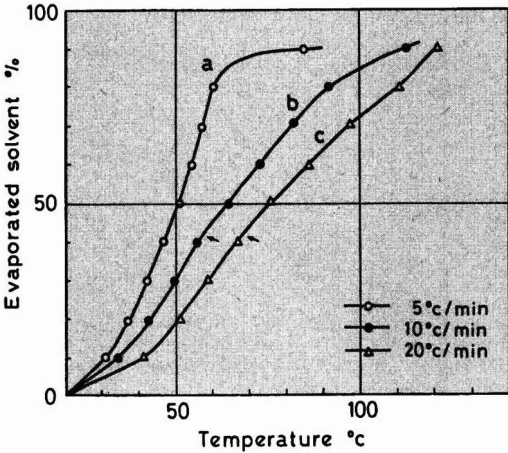
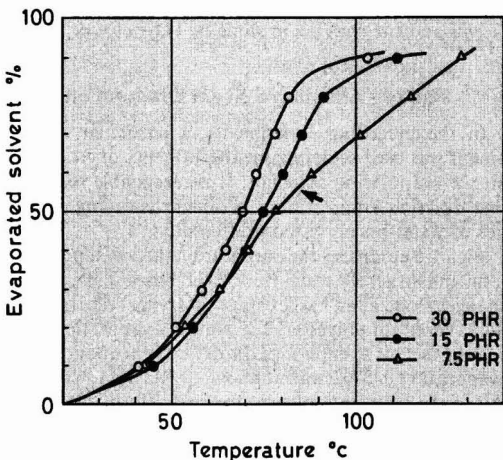
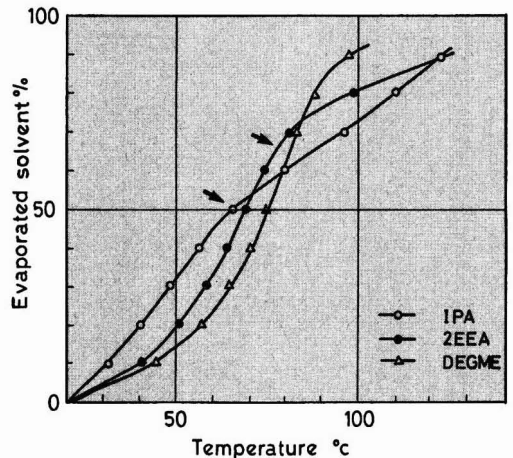

Figure 1—Evaporation curves obtained at different rates of heating (S-01)
Figure 3—Influence of the amount of cosolvent added on evaporation curves (S-03, S-04 and S-05, RH = 20 °C/min)
Figure 4—Influence of the volatility of cosolvent used on evaporation curves (S-06, S-07 and S-08, RH = 20 °C/min)
The aspects of solvent evaporation from coated films can be seen by plotting the evaporation curves representing the amount of evaporated solvent at each stage of temperature. The necessary data are obtained from the TGA experiments. Figures 1 and 2 show the evaporation curves for samples S-01 and S-02 which contain ethylene-glycolmonoethyl ether (EGME) and ethylene-glycolmonobutyl ether (EGMB), respectively, as cosolvents. Experiments were made using three different rates of heating (RH), increasing 5, 10, and 20° C per minute.
and c in Figure 1 breaking abruptly. This is also apparent in Figures 3 and 4. Figure 3 demonstrates the effect of the amount of cosolvent added where diethylene-glycol diethyl ether (DEGDE) was used. Figure 4 shows the influence of volatility of cosolvents, where isopropanol (IPA), 2-ethoxyethyl acetate (2EEA), and diethylene-glycol dimethyl ether (DEGDM) were used. These suggest that a change in slope in the evaporation curve tends to occur when a smaller amount of cosolvent or a higher volatile cosolvent is used.